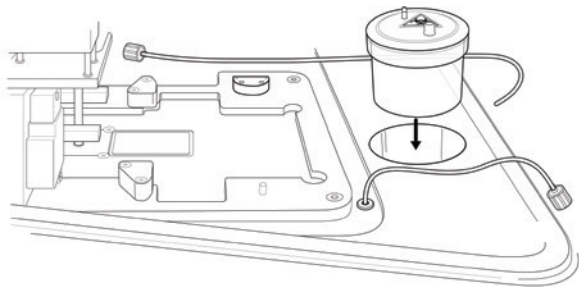

Fig. 13. Place waste jar in position.
- Place the waste jar in position at the base of the station bays nearest the user (Figure 13).